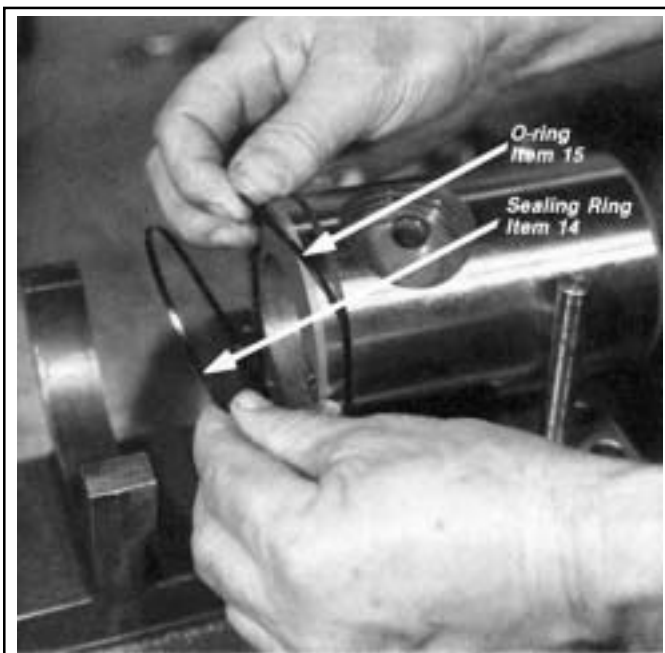

FIGURE 26 - REMOVING/INSTALLING PISTON SEALING RING & O-RING
12. Remove the sealing ring (14) and O-ring (15) below it from the groove in the piston (23). *Figure 26*